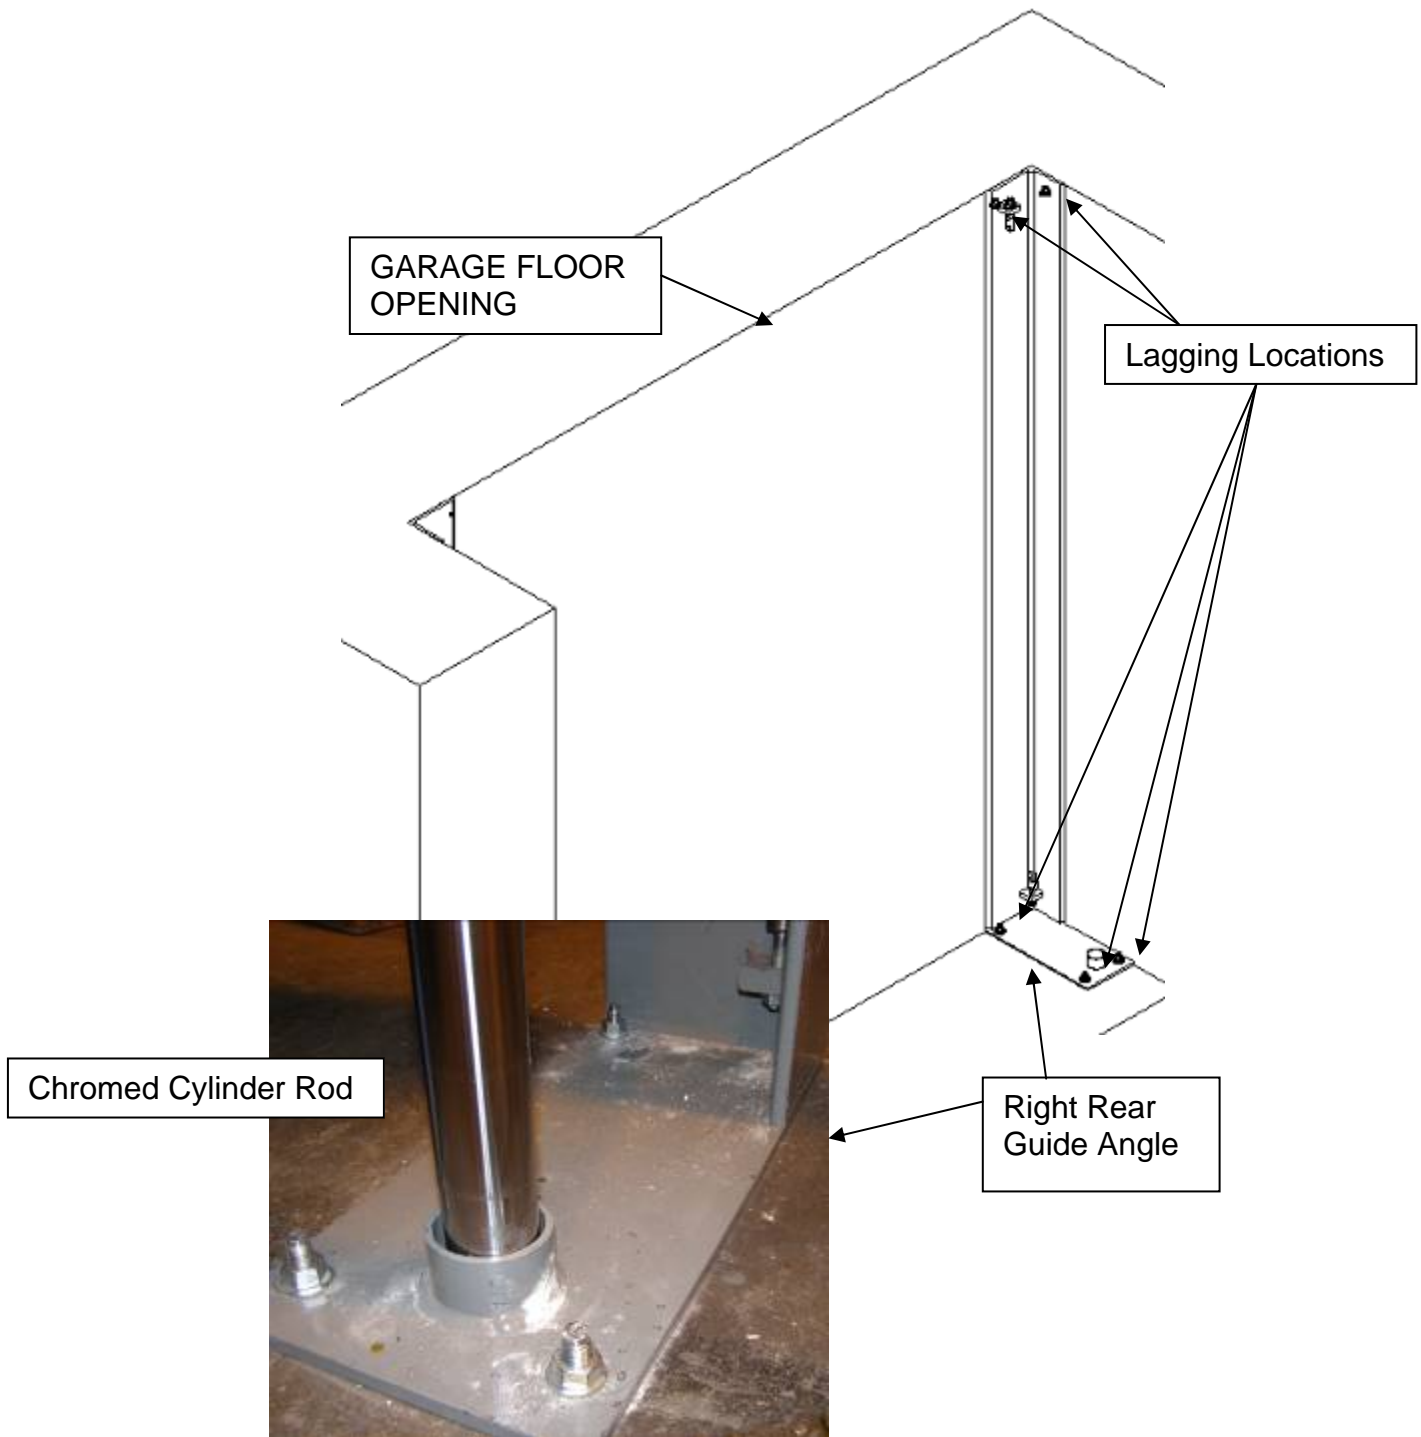

Figure 13 Corner Guide Installation
A. MOUNTING THE VERTICAL (CORNER) GUIDE ANGLES (Reference Fig.13)